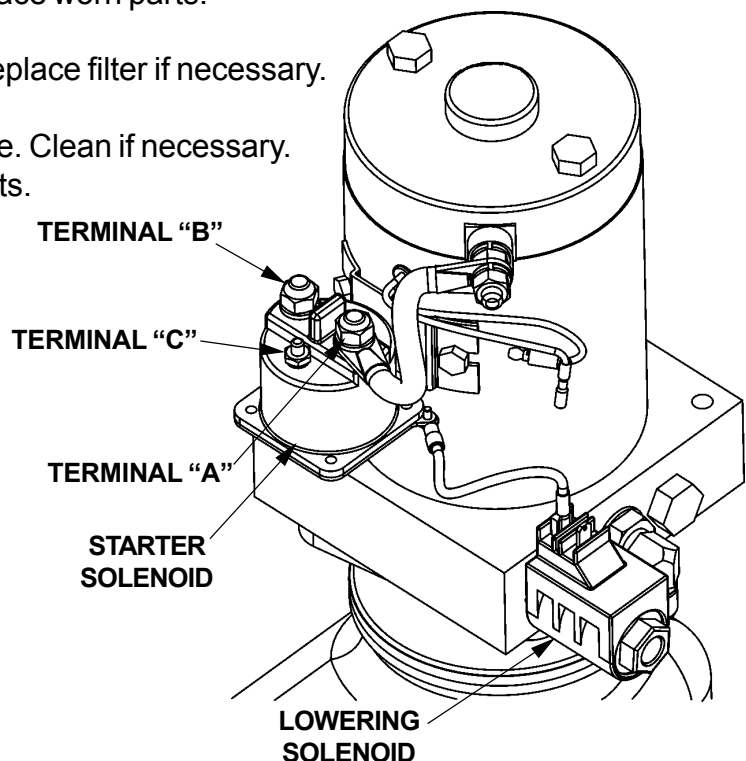

FIG. 37-1
1. Use voltmeter to verify that power is being supplied to Solenoid Terminal "A" (FIG. 37-1.) Recharge the battery if less than 12.6 volts.
3. Touch a jumper wire to terminals "A" & "C" (FIG. 37-1). If motor runs check Switch, switch connections, and White wire. Check and correct wiring connections or replace the Switch.
4. Touch heavy jumper cables to terminals "A" & "B" (FIG. 37-1).